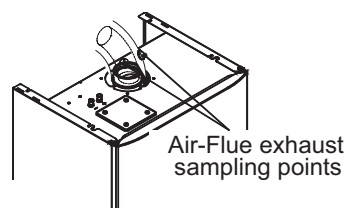

Figure 15.11
- Remove the plugs indicated (Fig. 15.11).